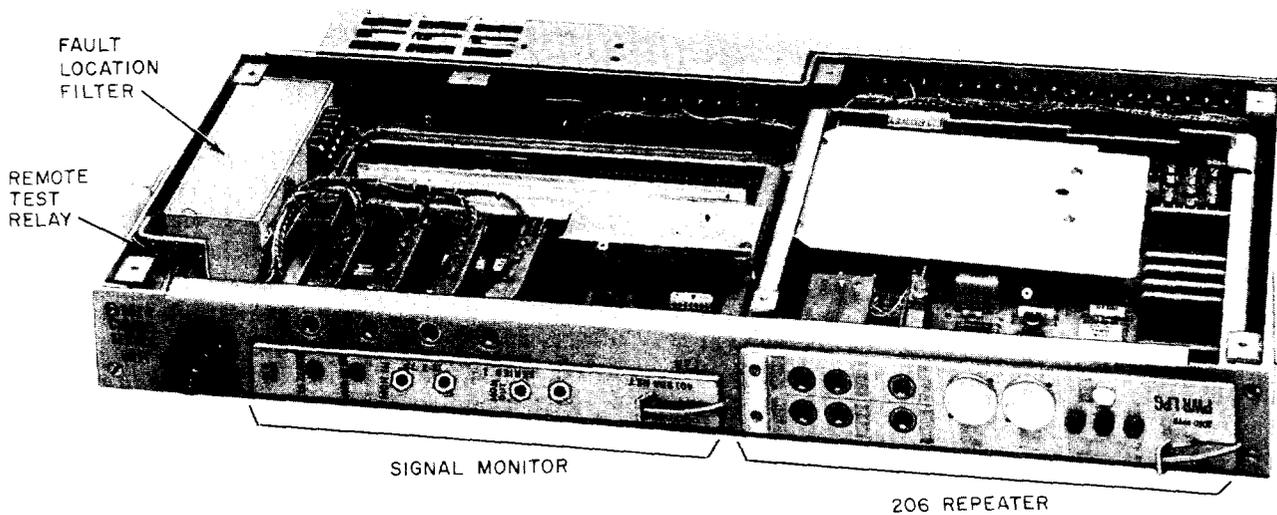

Fig. 2—551A CSU—Cover Removed
**2.02** A 551A-type CSU consists of an aluminum chassis, including top and rear cover, that houses two plug-in circuit modules, a remote test relay, a fault locating filter (optional), and miscellaneous circuitry (Fig. 2).